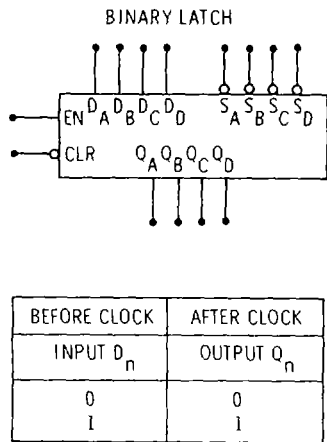

Figure 8-7. J/K Flip-Flop
8-49. J/K Flip-Flop. Figure 8-7 shows a typical J/K flip-flop. The trigger (T) input is activated by a low-going signal as indicated by the circle on the symbol. Flip-flop response is determined by the values of the J and K inputs at the instant that a low-going signal is applied to the trigger input: